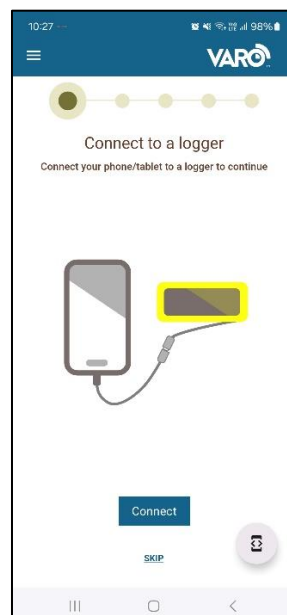

Figure 35 Varo Application Dashboard
- The home screen of the mobile application is shown in figure 35, click on the connect button to download the data from the data logger. The data will be downloaded in approx. 1 minute.